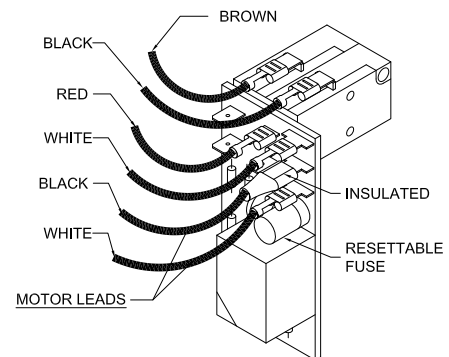

Figure 2
6. Connect the wires to the terminals as shown in Figure 2 and reinstall the cover.